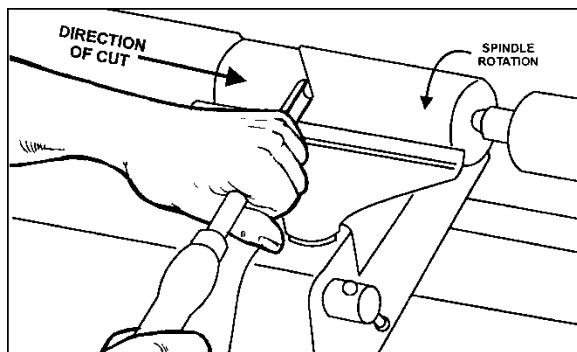

Figure 10-6: roughing out
3. Beginning about 2" from the tailstock end of the workpiece, roll the flute (hollowed-out portion) of the tool in the direction of the cut. See Figure 10-6. Make long sweeping cuts in a continuous motion to rough the piece down to a cylinder.